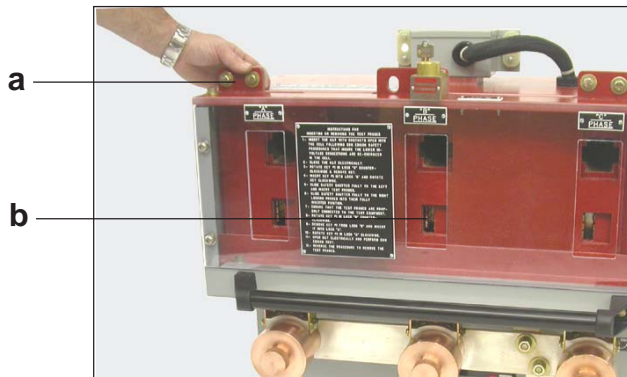

Figure 13. Shutter Operator and Test Ports
11. Install the test probes into the test ports (Figure 11 and Figure 13). Move the test port shutter to the right to capture the test probes with the test probe shutter.
6. Move the test port shutter fully to the right (Figure 13). Rotate the key in **Lock “B”** and remove the key. The test ports are now locked closed.